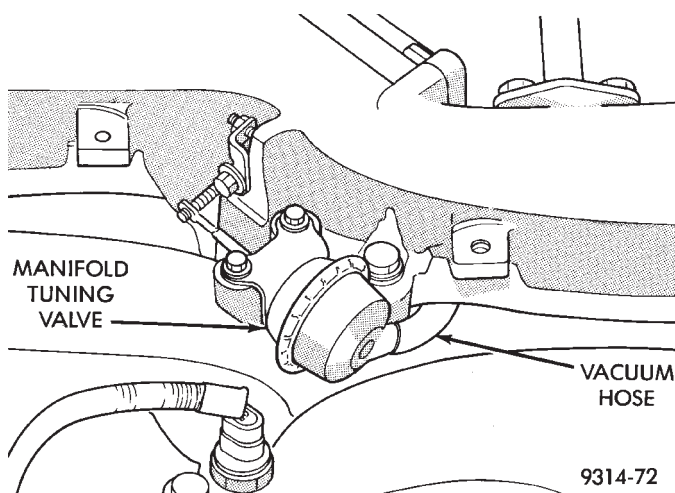

Fig. 11 Manifold Tuning Valve
(9) Ensure purge hose is connected to throttle body (on 3.5L engines each throttle body has a purge hose).
(10) On 3.5L engines, ensure the vacuum hose is connected to the manifold tuning valve and the vacuum harness (Fig. 11).